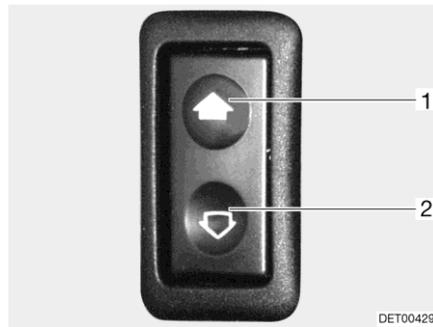

Fig. 27 Switch for electrical window winder
- Opening: ■ Press the lower part (Fig. 27,2) of the switch.
- Closing: ■ Press the upper part (Fig. 27,1) of the switch.